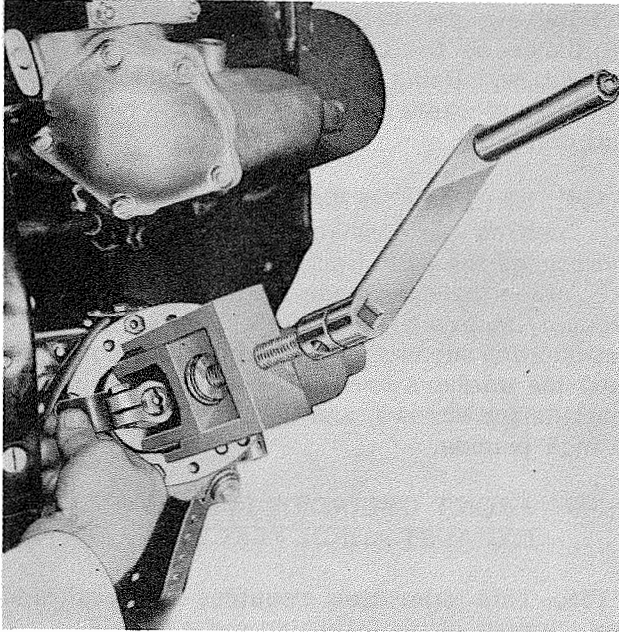

Figure 7-61. Withdrawing Metal Strip used to Position Push Rod during Rocker Arm Installation
a. To facilitate installation of rocker arms below the horizontal center line of the engine, it is usually necessary to use a flat strip of metal to position the push rods. Insert the strip of metal so it rests against the tip of the push rod ball end. Push the rod into the engine. If it does not go all the way in, the tappet socket may be caught on the adapter. Slight shaking of the push rod will release the socket so that the rod will go into the proper position. Hold the rod in place with the metal strip and slide the rocker arm in over the strip. This will compress the tappet socket spring and permit the push rod ball end to enter the rocker arm socket as the metal strip is withdrawn. See figure 7-61.